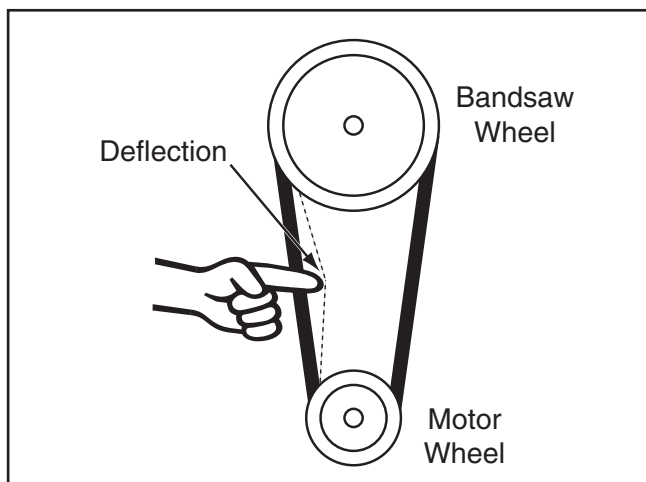

Figure 80. V-belt deflection.
6. Check the V-belt tension. When tensioned correctly, the V-belt can be deflected approximately $\frac{3}{4}$ " (see **Figure 80**).